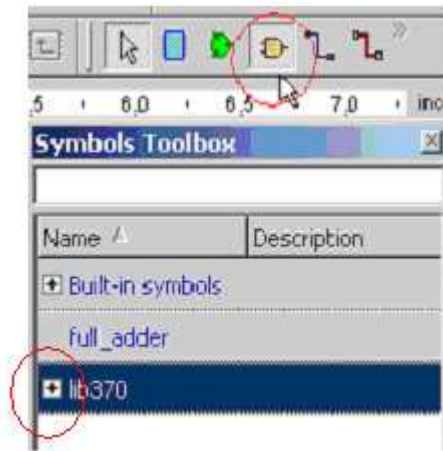

Figure 17
5. Open the Symbols Toolbox by clicking the Symbols Toolbox icon in the toolbar (Figure 17).
6. Click the plus symbol to the left of the “lib370” option (see Figure 17 above) to expand the list. Scroll down the list to find the desired part from the list, or type in the name of the part in the field at the top of the Symbols Toolbox to search the list.